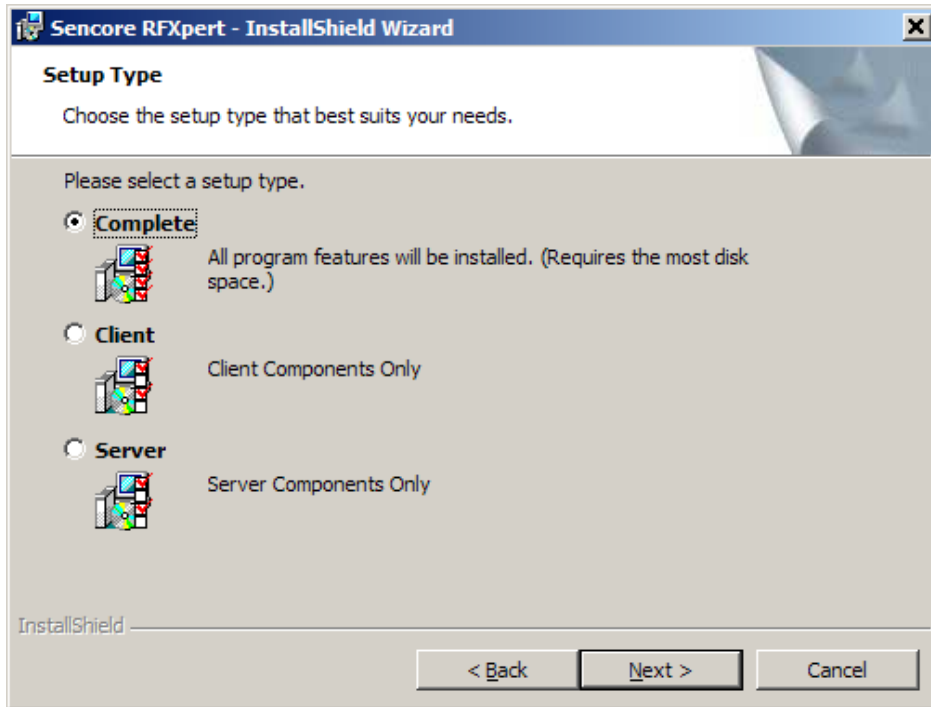

Figure 2. RFXpert Setup Type
3. The remainder of the RFXpert installation is self-explanatory. However, take note of the setup type screen (Figure 2) that asks whether you want to install the Complete, Server, or Client versions of the application. RFXpert is a client/server based architecture and must be installed accordingly. Complete is the easiest and most common installation method.